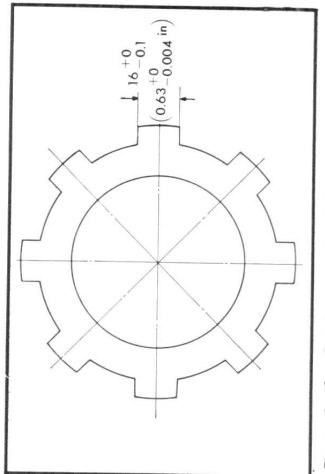

Figure 3-69. Clutch plate tab width
- (4) Clutch plate (Fig. 3-69)